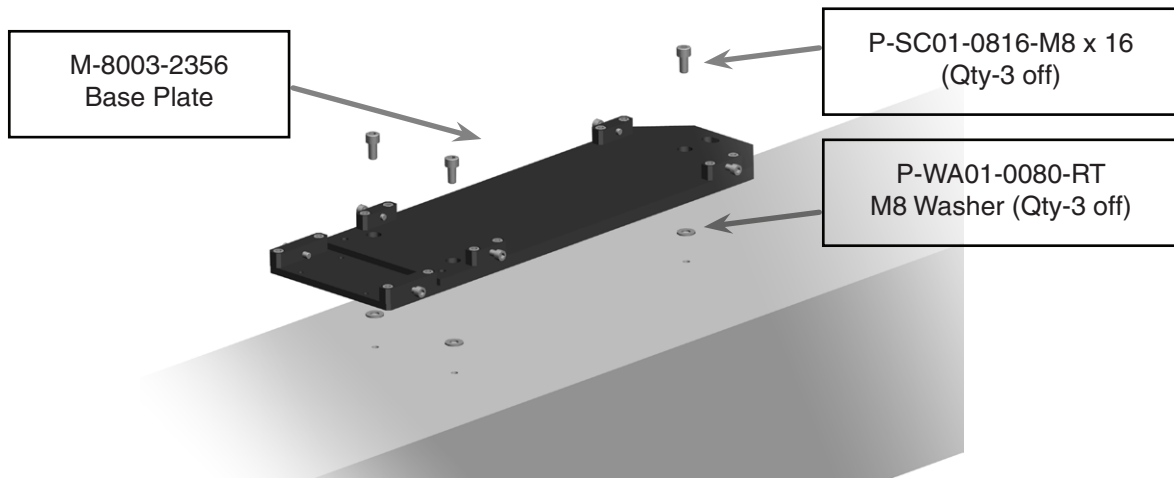

Figure 19 - Fixing the baseplate
1. Place an M8 washer over each of the three mounting holes on the machine. The washers must be fitted to avoid distortion of the baseplate. (Note: additional washers may be added if required) as shown in figure 19.